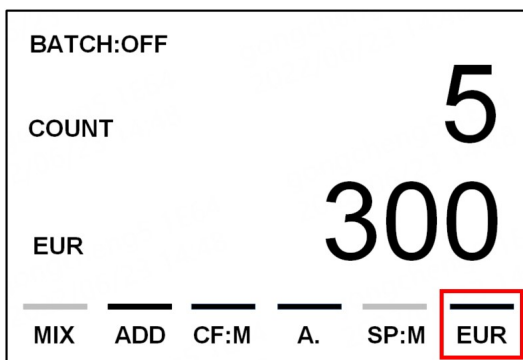

Figure 26
3) Take all the dollar bills out of the bucket and then take a stack of euro bills and put them into the machine for counting. After the machine counting, the interface shown in Figure 26 below appears. The "EUR" character appears in the lower right corner of the display screen.